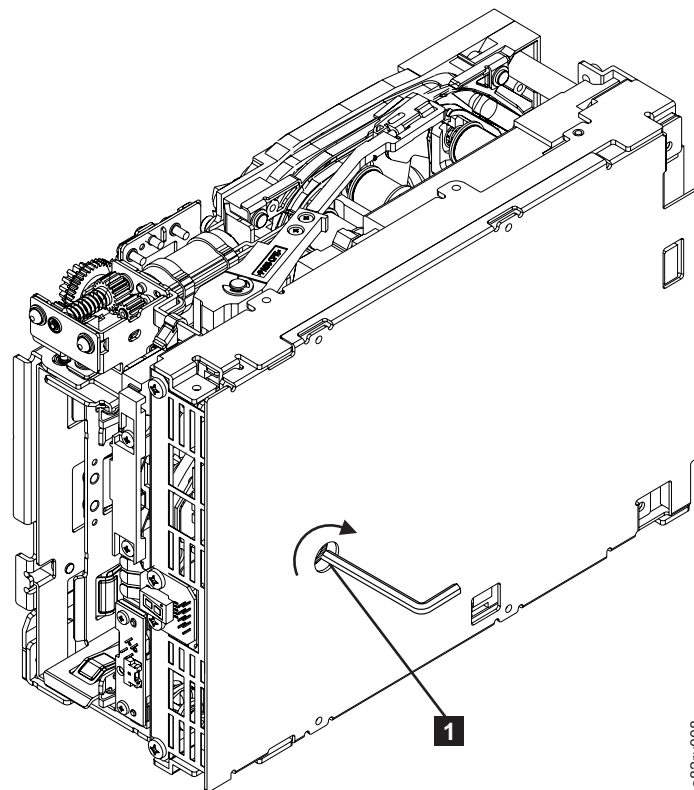

Figure B-6. Using hex wrench to rewind tape into cartridge
- | ___ 6. From the bottom of the drive, locate the access hole (**1** in Figure B-6) in the bottom cover. Insert